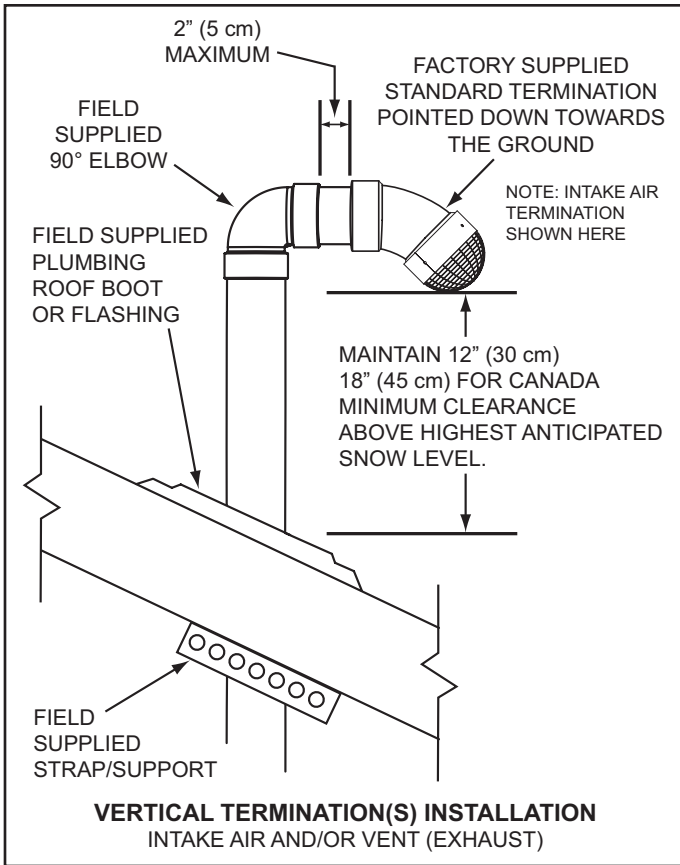
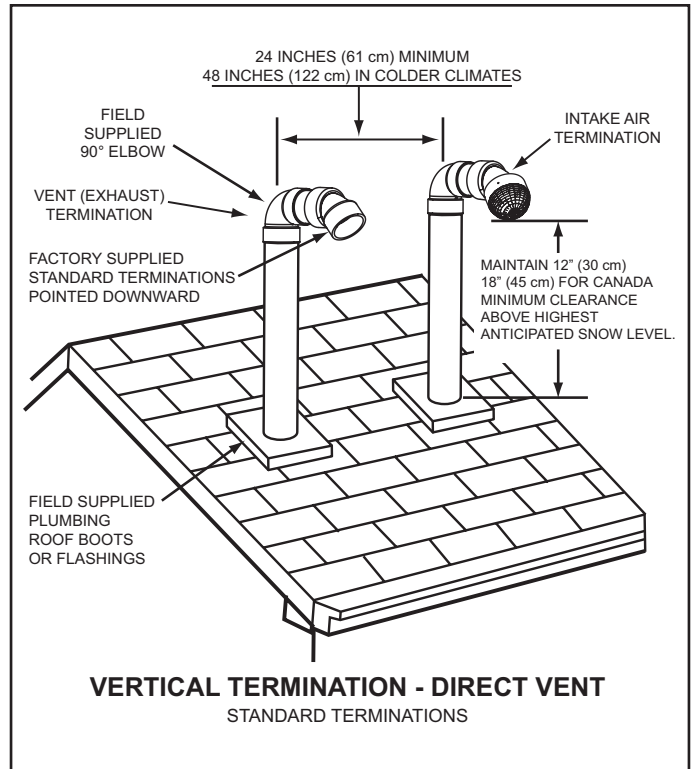
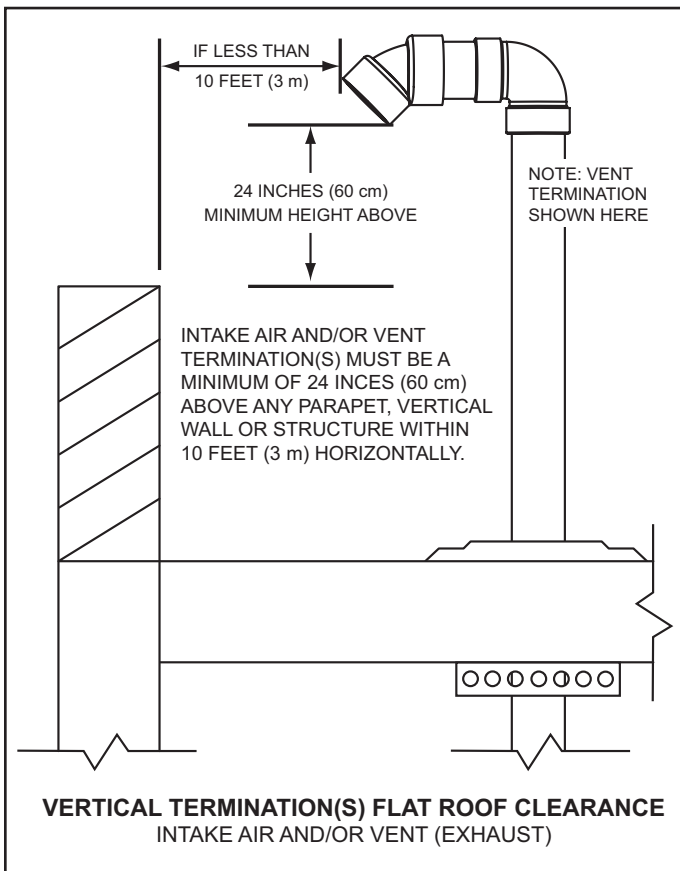

Figure 19
Figure 21
Figure 20
2. If installing only the vent (exhaust) piping in a Power Vent configuration vertically through the roof; ensure that all exterior vertical clearance requirements shown in Figure 19 and Figure 20 on page 26 are being maintained. These clearances and those cited by local and national codes must be maintained.
**NOTE:** On flat roof installations the vent termination must be a minimum of 24 inches (60 cm) above any parapet, vertical wall or structure within 10 feet (3 m) horizontally. See Figure 20 on page 26.
3. If installing both intake air and vent piping in a Direct Vent configuration vertically through the roof; ensure that all exterior vertical clearance requirements shown in Figure 19 and Figure 20 on page 26 are being maintained. These clearances and those cited by local and national codes must be maintained.
**NOTE:** On flat roof installations the intake air and the vent terminations must be a minimum of 24 inches (60 cm) above any parapet, vertical wall or structure within 10 feet (3 m) horizontally. See Figure 20 on page 26.
The vent termination must be oriented facing downward as shown in Figure 19 and Figure 20 on page 26.
The bottom edge of the vent termination must be a minimum of 12 inches (30 cm), 18 inches (45 cm) in Canada, above the average or expected snow level as shown in Figure 19 on page 26.
The intake air and vent pipes must penetrate the same side of the roof as shown in Figure 21 on page 26.
The intake air and vent terminations must be oriented facing downward and in the same direction as shown in Figure 21 on page 26.
The intake air and vent terminations must have a minimum separation of 24" (61 cm) measured on center line as shown in Figure 21 on page 26. In colder climates this separation should be increased to at least 48 inches (122 cm).
The bottom edge of the intake air and vent terminations must be a minimum of 12 inches (30 cm), 18 inches (45 cm) in Canada, above the average or expected snow level as shown in Figure 19 and Figure 21 on page 26.
The distance between the closest vent and intake air terminations must be a minimum of 24 inches (61 cm) as shown in Figure 21 on page 26. In colder climates this separation should be increased to at least 48 inches (122 cm).
8. Suspend the pipe(s) through center of hole using field supplied metal strapping or equivalent support materials as shown in Figure 19 on page 26.
9. Slide a roof boot or equivalent flashing over the pipe and secure roof boot or equivalent flashing to roof and seal around the flashing as shown in Figure 19, Figure 20 and Figure 21 on page 26.
10. Install the factory supplied intake air and/or vent termination(s) using field supplied pipe and one field supplied 90° elbow as shown in Figure 19 on page 26. The short section of pipe that connects between the field supplied 90° elbow and the factory supplied termination must not be excessive in length. The exposed portion of this pipe shall be no more than 2 inches (5 cm), see Figure 19 on page 26.